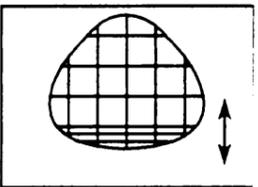

Fig 4
- 4: Adjust the vertical symmetry to obtain symmetrical scanning between upper and lower picture (fig. 4).